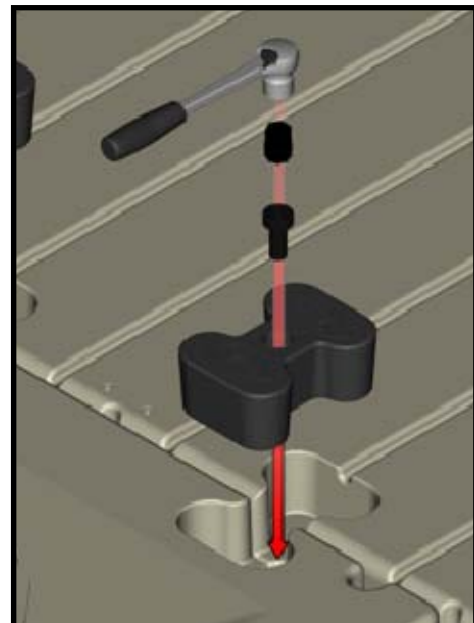

Figure 7.
9. While holding pressure, insert the top coupler into the opposing pocket by aligning the hole in the top coupler over the rod and pushing the coupler into the pocket, (Figure 7).
10. Install the coupler nut (Item 4) onto the bolt and tighten until the top of the bolt is 3/8 - 1/2" below the top of the nut (do not torque over 15 ft-lb). Due to the security feature on the coupler nut, the composite coupler installation tool (Item 3) is required for tightening. The coupler installation tool is splined on the end to be inserted into the coupler nut and the other end is a 15/16" bolt. This is inserted into a 15/16" socket (Item 2) with ratchet (Item 1) for tightening (Figure 7).